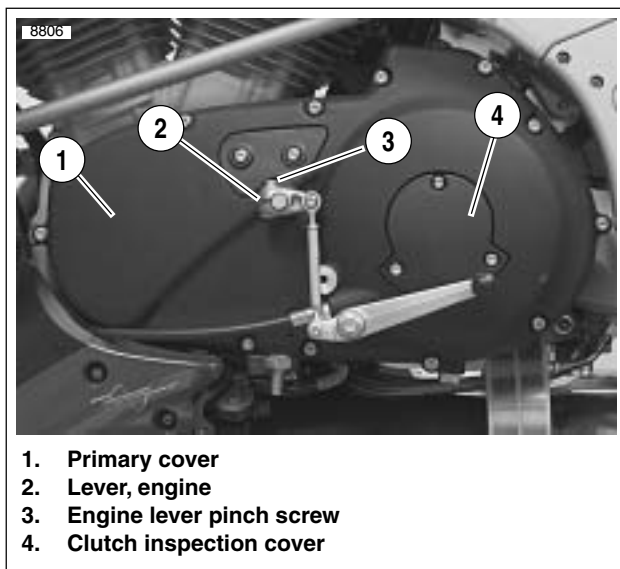

Figure 6-7. Installing Primary Cover
11. See Figure 6-7. Install clutch inspection cover (4) with new gasket and three TORX screws with washers. Tighten screws in a crosswise pattern to 84-108 **in-lbs** (9.5-12.2 Nm).